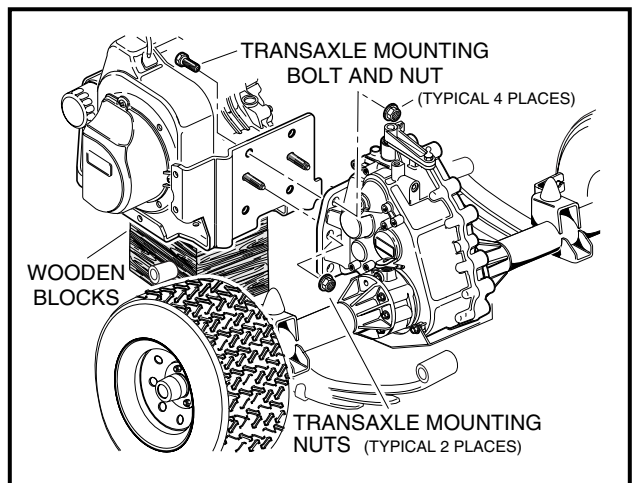

Figure 16-38 Transaxle Mounting
- 22.1. Remove four transaxle mounting bolts (one at each corner of the transaxle mounting plate) as shown (**Figure 16-38, Page 16-15**).
- 22.2. Remove two middle transaxle mounting nuts as shown (**Figure 16-38, Page 16-15**).